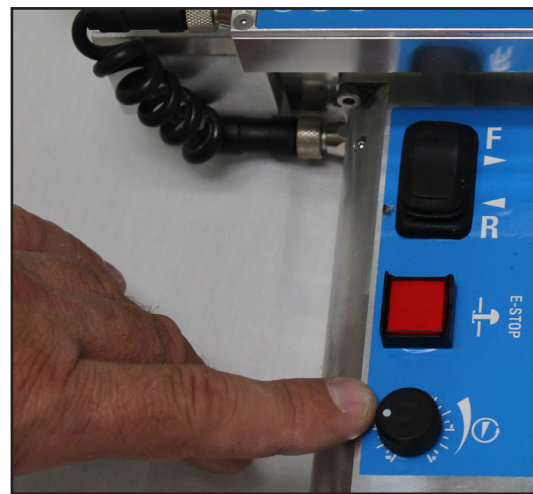

Figure 24. Adjust Speed Control
D. Adjust Speed – Use the Speed control knob to adjust the tractor drive speed to ensure smooth installation and match the amount of air pressure being used so that the forces are working together, not against one another. (See figure 24). Counterclockwise increases speed and clockwise decreases speed.